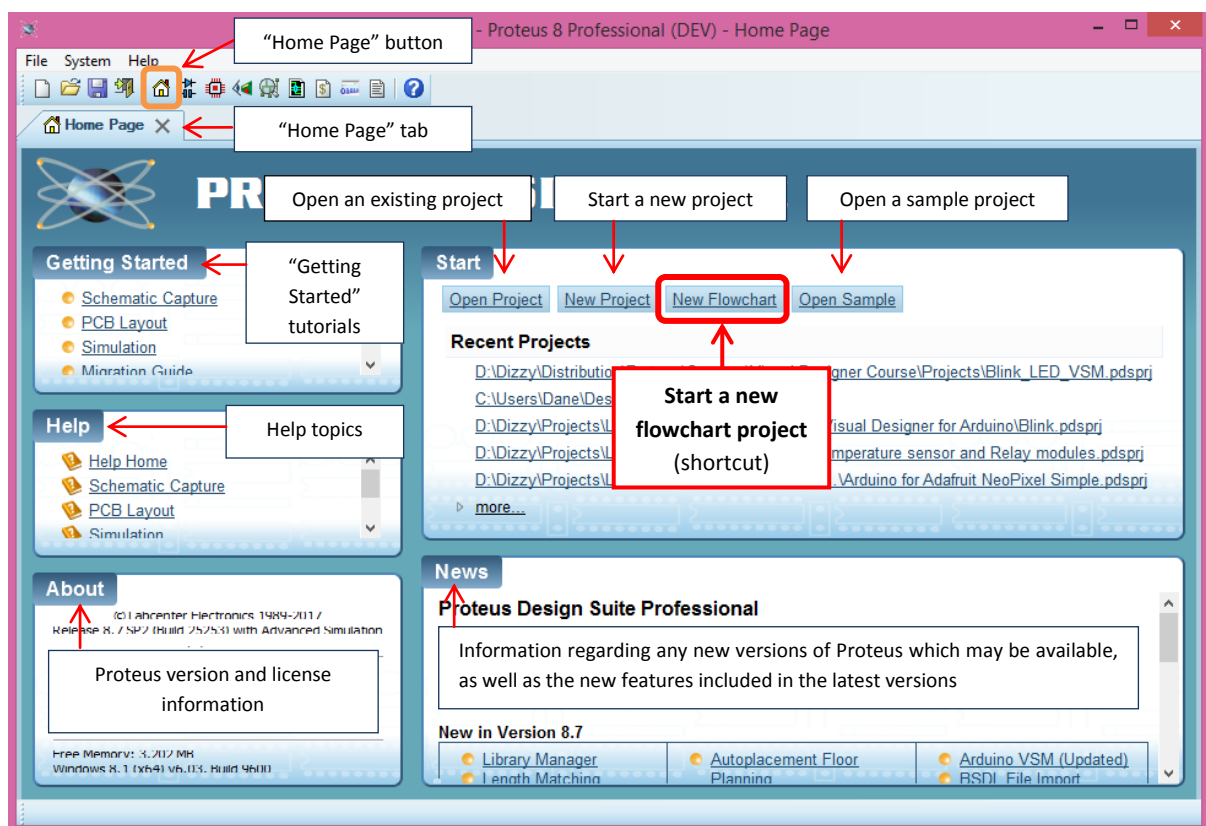
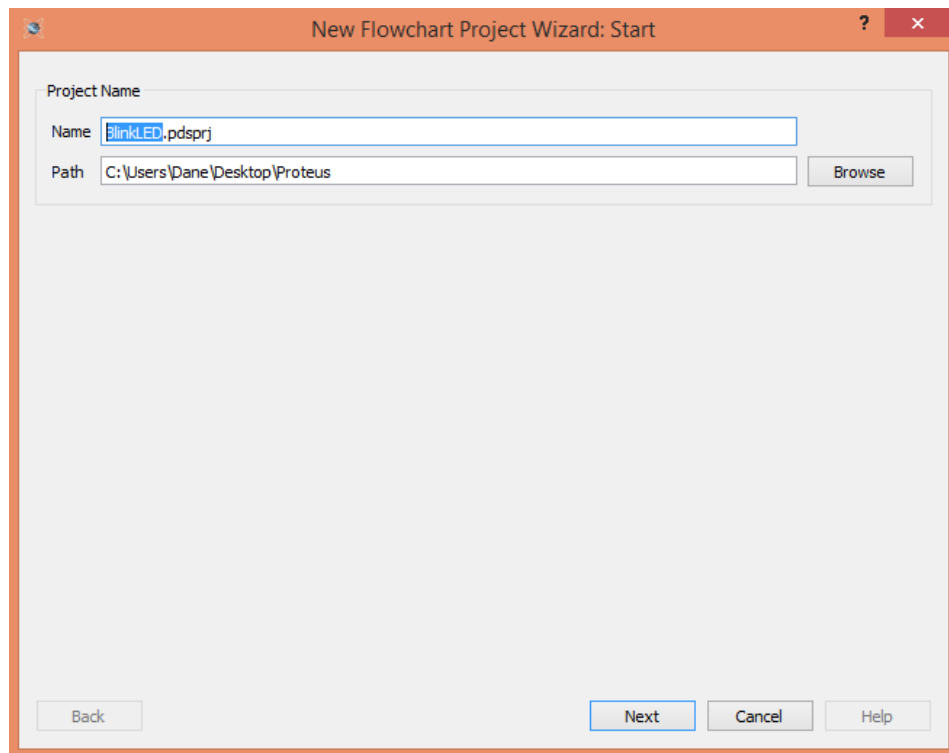

Figure 2-1: Proteus "Home Page"
Figure 2-2: New Project Wizard for starting a new flowchart project
Step 2: In order to start a new flowchart project, the **"New Flowchart"** option should be selected in the **Start section** of the Proteus desktop screen (see Figure 2-1). This will then launch the New Project Wizard for starting a new flowchart project (Figure 2-2).